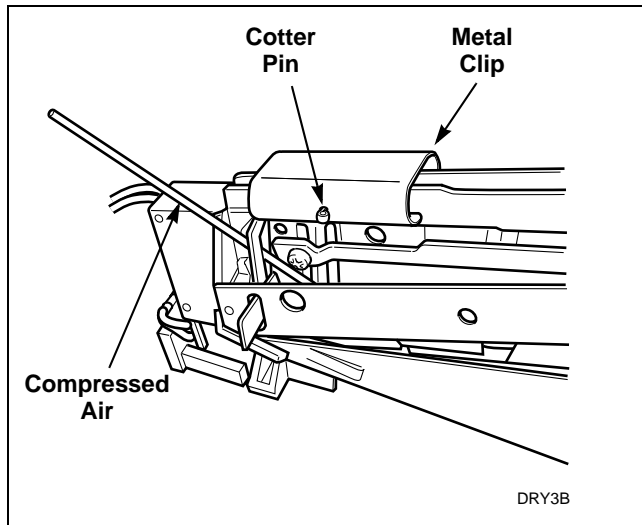

Figure 49
- If lint is preventing coins from rolling through coin drop, blow compressed air through coin entry and along the side of the coin drop. Refer to *Figure 49*.
- Remove cotter pin from top of drop. Refer to *Figure 49*. Save pin for reinstallation when cleaning is complete.
- Move metal clip closer to sensor so that it comes off frame. Refer to *Figure 49*.